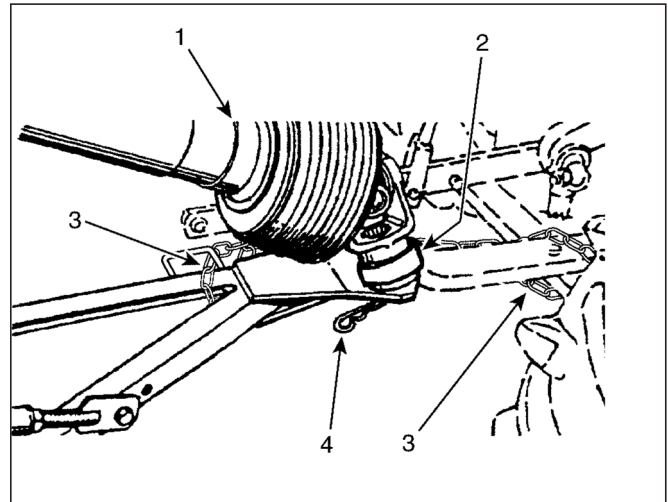

Figure 31 Driveline in transport position
## TRANSPORTING INSTRUCTIONS (WITHOUT GEARBOX) - FIGURE 31
1. Install the driveline end (item 1) coupling in its support (item 2).
2. Insert the lock (item 3) and block it with a spring locking pin (item 4).
**NOTE:** Always use a hitch pin with a safety pin (item 4 in Figure 31) for transport.